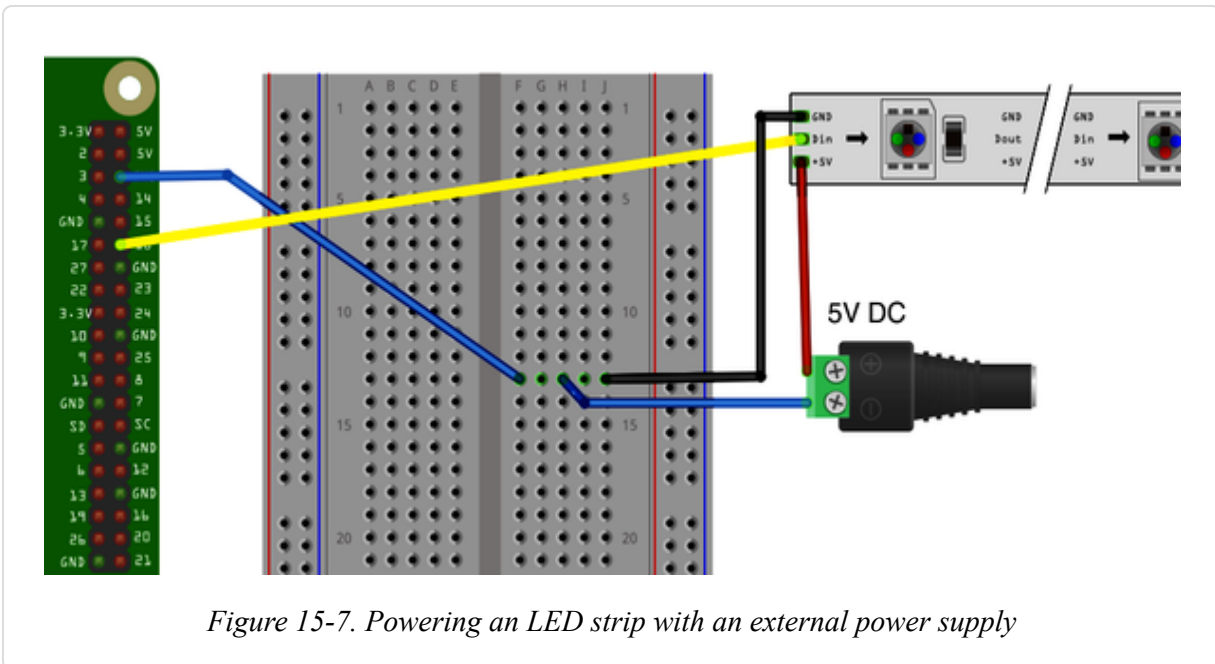

Figure 15-7. Powering an LED strip with an external power supply
Figure 15-7 shows how you would wire up a separate power supply. A female direct current (DC) jack-to-screw terminal adapter (see “Prototyping Equipment and Kits”) makes it easy to connect an external power supply to a breadboard.